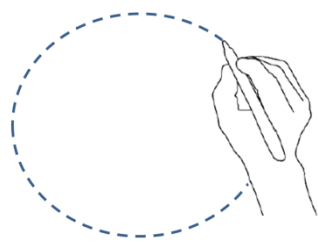

Fig. 1 – Marking the 295mm diameter hole cut-out
6. Mark and cut out a **295mm diameter** hole into the ceiling. (Fig 1)